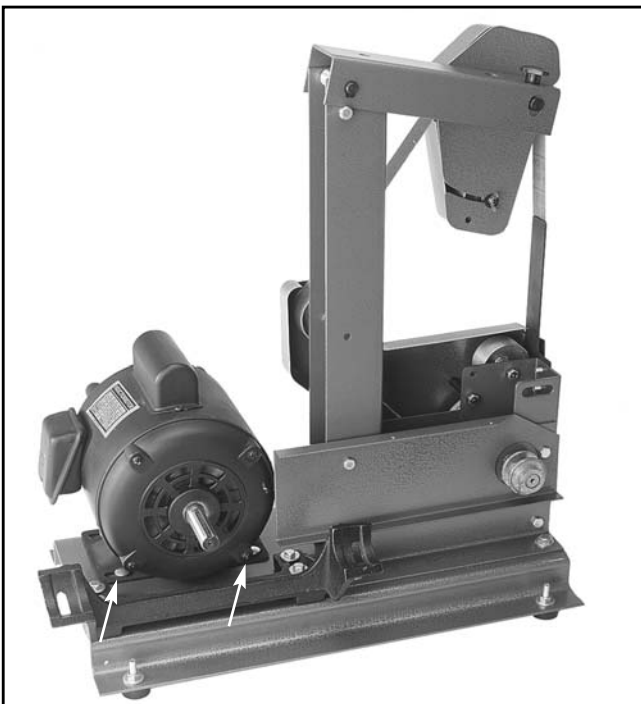

Figure 6. Motor mounted on base.
4. Mount the Motor to the base using the four (4) $\frac{5}{16}$ " - 18 x $\frac{5}{8}$ " carriage bolts, four (4) $\frac{5}{16}$ " washers, and four (4) $\frac{5}{16}$ " - 18 hex nuts. Be sure that the bolts protrude upward through the motor base. **See Figure 6.** Finger tighten only.